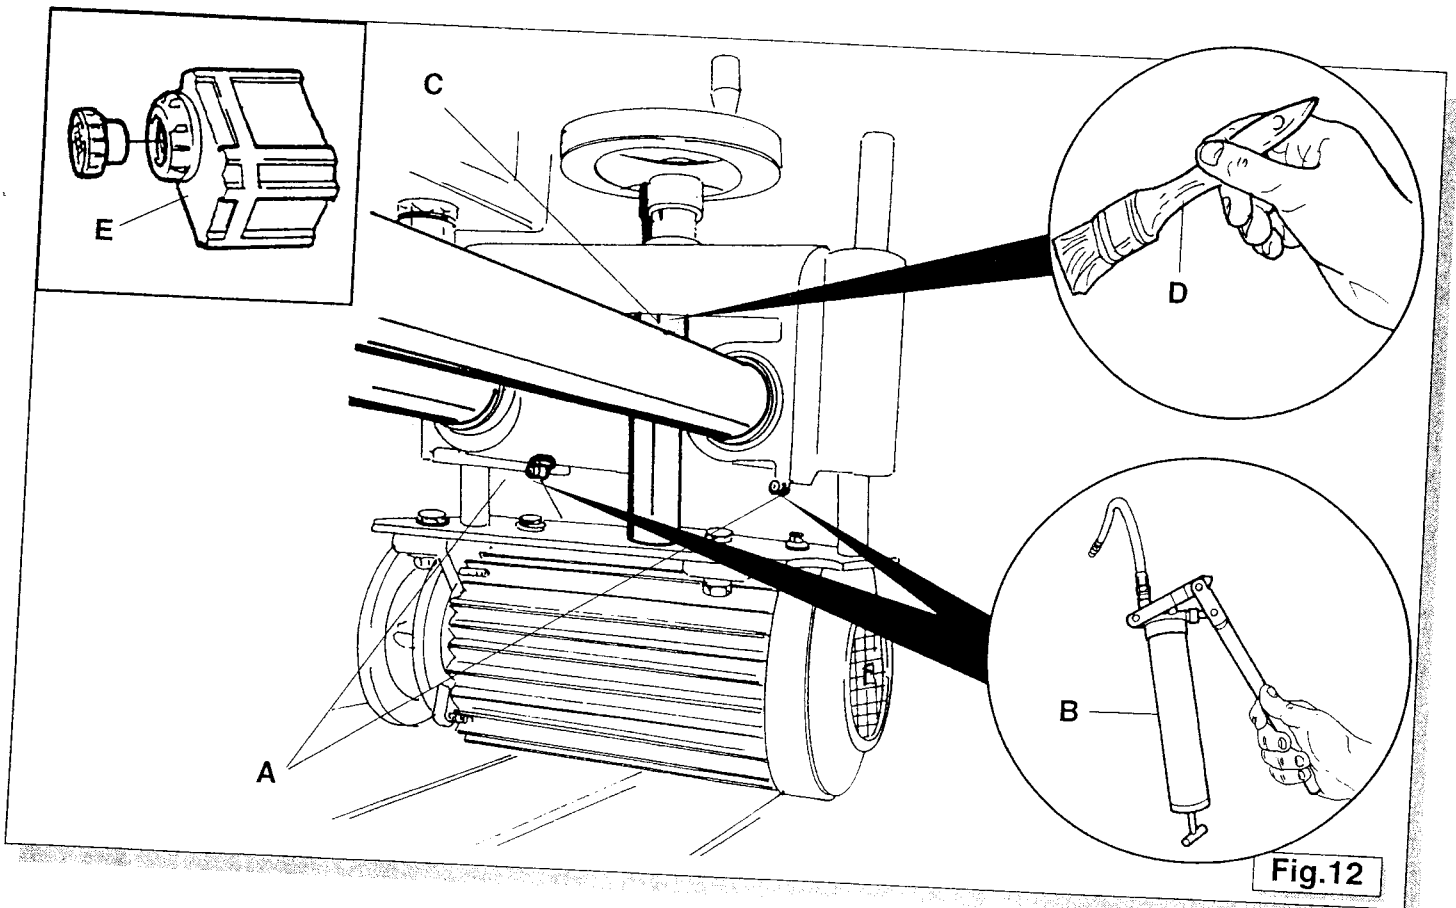

Fig.12
- water pump **E** (Fig. 12) inlet.
- Grease sliding guides at grease fittings **A** (Fig. 12) using a manual grease gun **B** (Fig. 12)
- Put grease on the vertical screw **C** (Fig. 12) using a small brush **D** (Fig. 12)